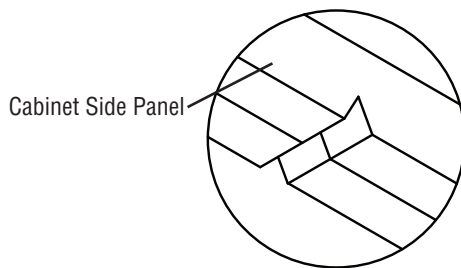

Fig. 4
- 4) Hold interconnect cable to mounting surface and determine best path for cable. If interconnect cable is being run from cabinet to cabinet a notch such as a "V" could be cut in cabinet side panels to help keep cable out of sight. (See Fig. 4)